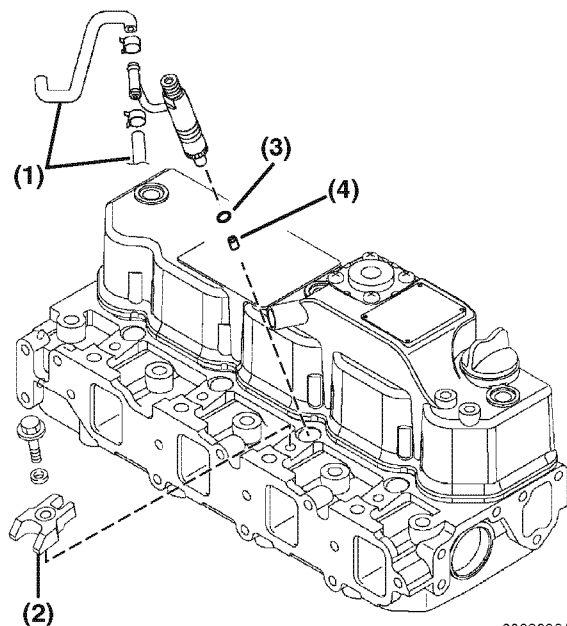

Figure 7-61
1. Reinsert a new nozzle seat (**Figure 7-61, (4)**) and nozzle protector (**Figure 7-61, (3)**) in the cylinder head for each injector.
4. Reinstall the fuel injector retainers (**Figure 7-61, (2)**) and torque the retaining bolts to specification.
5. Reinstall the fuel return hoses (**Figure 7-61, (1)**), one on each side of each injector.